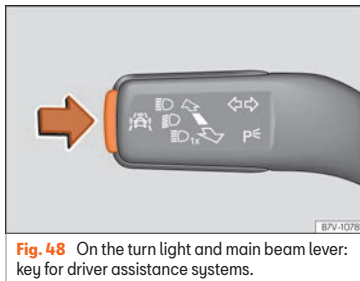

Fig. 48 On the turn light and main beam lever: key for driver assistance systems.
- Briefly press the button **»» Fig. 48** in the direction of the arrow to open the menu **Assistance systems**.